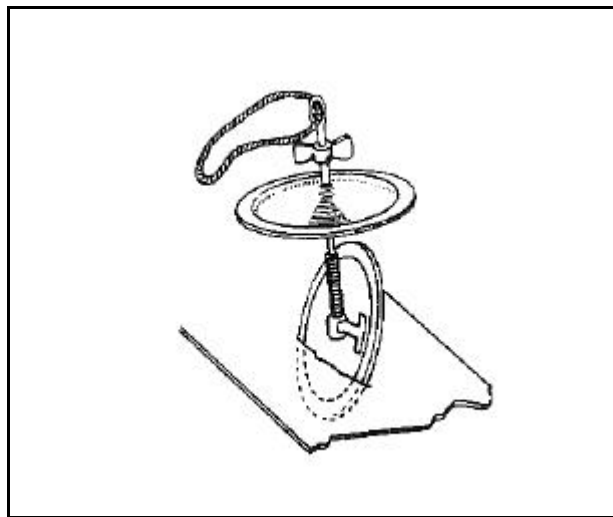

Figure 10-27. Pushing Bottom Plate Through Hole
- Push the bottom plate through the hole (see Figure 10-27, page 10-32).